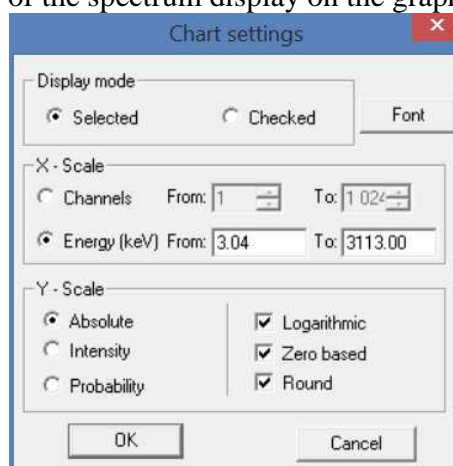

Figure 43. **Chart settings**
**Display configuration** – calls up the **Chart settings** dialog box (see Figure 43) where user can change the appearance of the spectrum display on the graph.